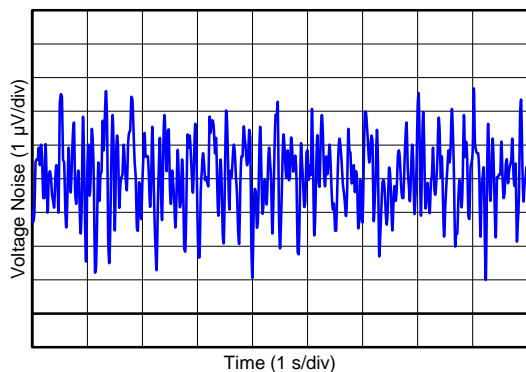

Figure 11. 0.1-Hz TO 10-Hz INPUT VOLTAGE NOISE
0.1-Hz to 10-Hz Input Voltage Noise (5.5 V)	<a href="#">Figure 11</a>